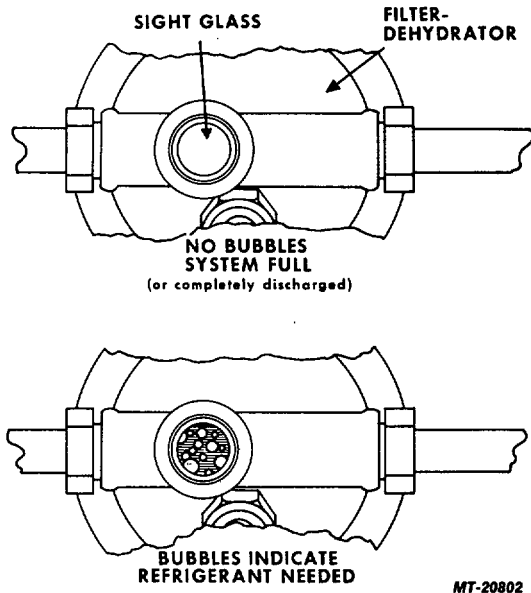

Fig. 33 Sight Glass Indications
- b. Observe sight glass for bubbles (Fig. 33). Sight glass should appear clear (no bubbles). Bubbles indicate a low refrigerant charge. Add refrigerant. (See "Adding Refrigerant to System" under SERVICE OPERATIONS.)